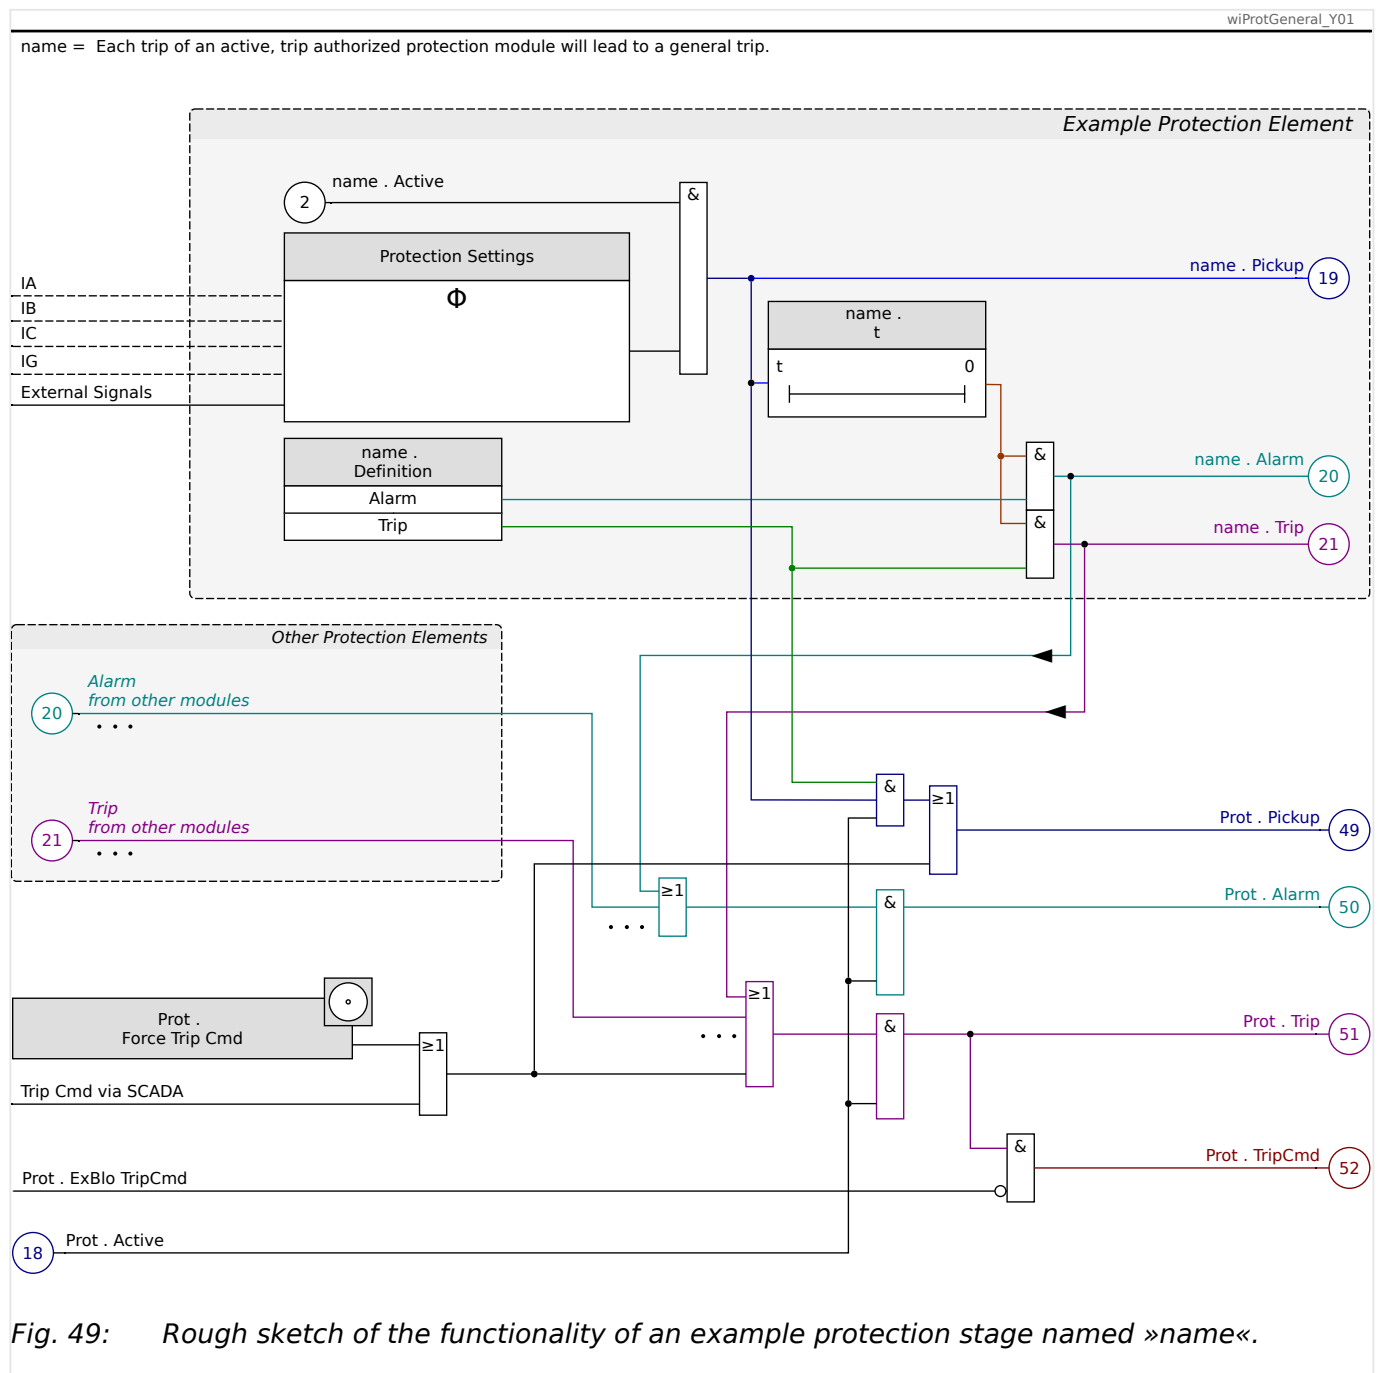

Fig. 49: Rough sketch of the functionality of an example protection stage named »name«.
- A protection pickup does not issue a General Pickup »Prot . Pickup«. Instead, if the fault persists after a settable timer has elapsed (see ↪Fig. 49), an alarm signal »Alarm« is issued, which is also (internally) reported to the master module »Prot«.
- If the fault persists after a settable timer has elapsed – see also ↪Fig. 49:
In addition to the signals shown in the diagram Fig. 49, the »Prot« module also features collective signals and phase-selective signals. The phase-selective signals can be issued by protection modules that are able to detect 1p faults.
See also the function diagram, ↪Fig. 49.